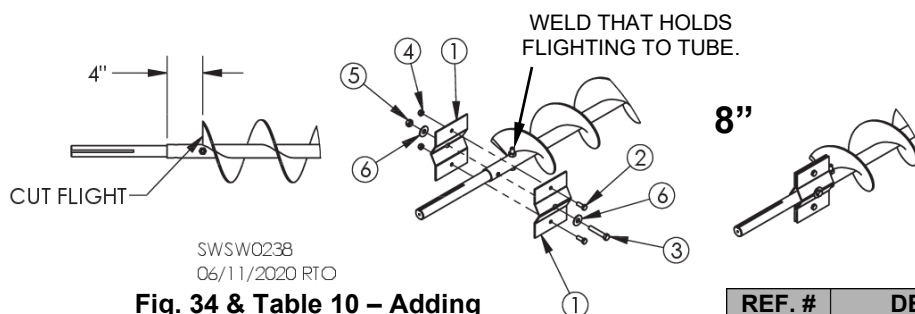

Fig. 34 & Table 10 – Adding flinger to horiz. auger for 8" Sweepway vertical powerhead
1. Flinger is factory-attached to vertical auger used with vertical powerhead. Flinger for horizontal auger feeding vertical auger must be field-attached. Prepare horizontal auger for use with vertical powerhead by using a cutoff wheel to trim flighting from end of unload auger to make room for flinger. **IMPORTANT:** Ensure end of trimmed flighting is welded to tube. See Fig. 34 for example. Bolt flinger to tube as shown in Figs. 34-35 depending on unload system size.